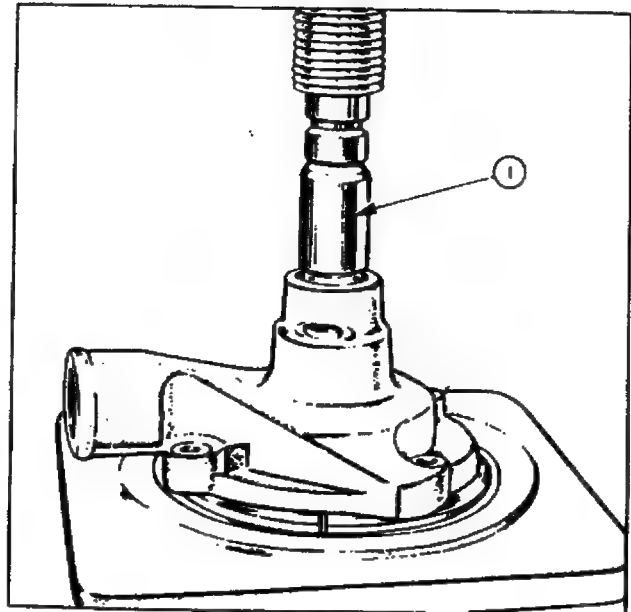

Fig. 9
4. Press the impeller, seal, slinger, shaft and bearing assembly out of the housing, using adaptors CPT.8000—2 detail "d" and CPT.8000—3 detail "b" as shown in Fig. 9. Adaptor detail "b" is hollow, and fits over the shaft and bears against the outer diameter of the bearing.
1. Press the shaft and bearing assembly into the housing (short end of shaft to the front of the housing) until the groove in the shaft is in line with the groove inside the housing, using adaptors CPT.8000-2 detail "d" and CPT.8000-3 detail "b" as shown in Fig. 9.